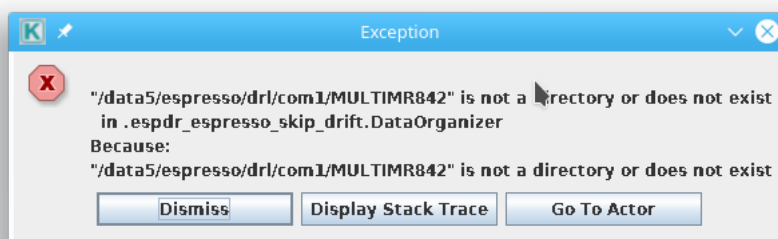

Figure 9.0.1: *TheDataOrganizer* interactive window reports an error “:No Datasets have been created, check the DataSet and the OCA rules.”.
- (b) **it fails with error message “:No DataSets have been created, check the data set and the OCA rules.” (see Figure 9.0.1).**